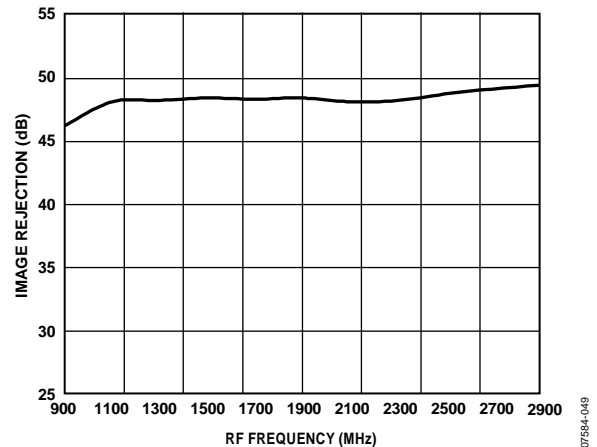

Figure 53. Image Rejection vs. RF Frequency
The image rejection ratio is the ratio of the intermediate frequency (IF) signal level produced by the desired input frequency to that produced by the image frequency. The image rejection ratio is expressed in decibels (dB). Appropriate image rejection is critical because the image power can be much higher than that of the desired signal, thereby plaguing the downconversion process. Amplitude and phase balance between the I/Q channels are critical for high levels of image rejection. Image rejection of greater than 47 dB was measured for the combined ADL5380 and the AD8366 for a 5 MHz baseband frequency, as seen in Figure 53. This level of image rejection corresponds to a $\pm 0.5^\circ$ phase mismatch and a ± 0.05 dB of amplitude mismatch for the combined ADL5380 and AD8366. Looking back to Figure 7 and Figure 10, the AD8366 exhibits only ± 0.05 dB of amplitude mismatch and $\pm 0.05^\circ$ of phase mismatch, thus implying that the AD8366 does not introduce additional amplitude and phase imbalance.